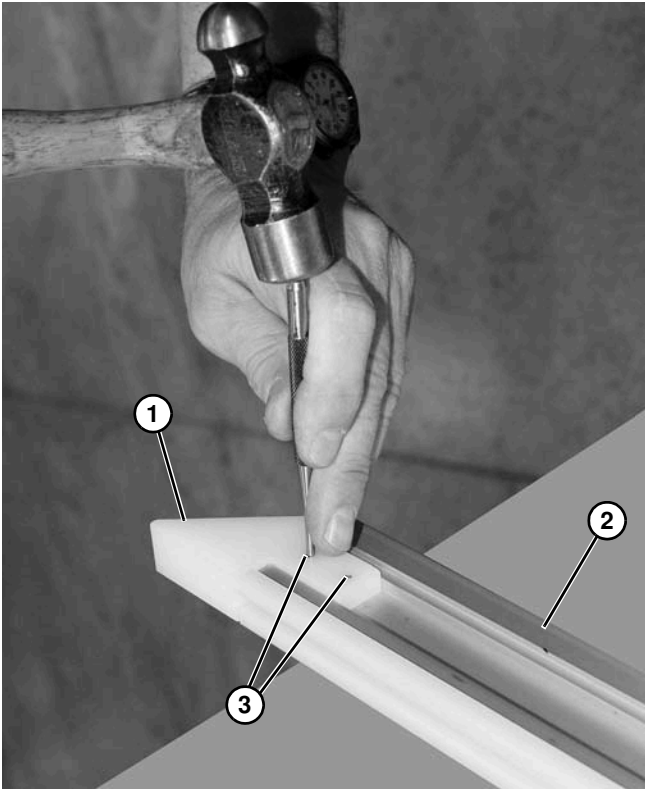
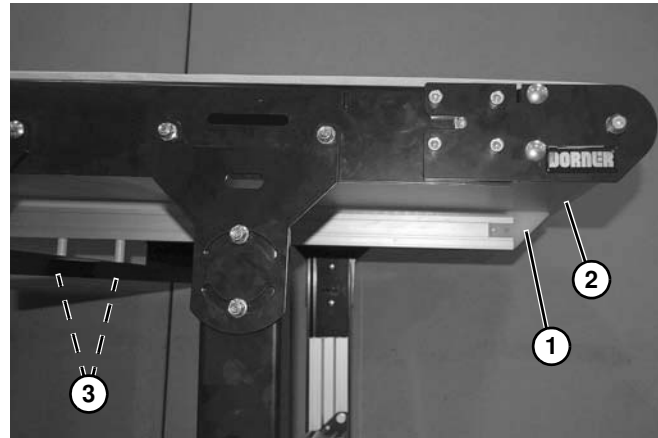

Figure 63
Figure 65
8. Install end cap guard (**Figure 63, item 1**) onto return support (**Figure 63, item 2**) with two roll pins (**Figure 63, item 3**).
11. Align end cap guard (**Figure 65, item 1**) on return support with end of conveyor (**Figure 65, item 2**), and tighten screws (**Figure 63, item 3**). Tighten remaining screws on cross supports, as needed.